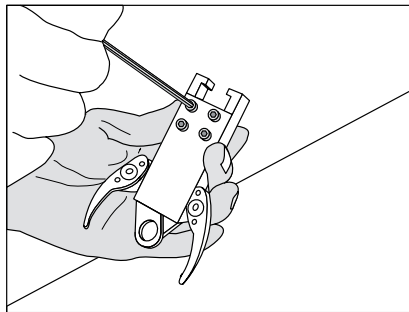

Figure 19
6. Loosen the screws with a 3 mm Allen wrench. (See Figure 19)